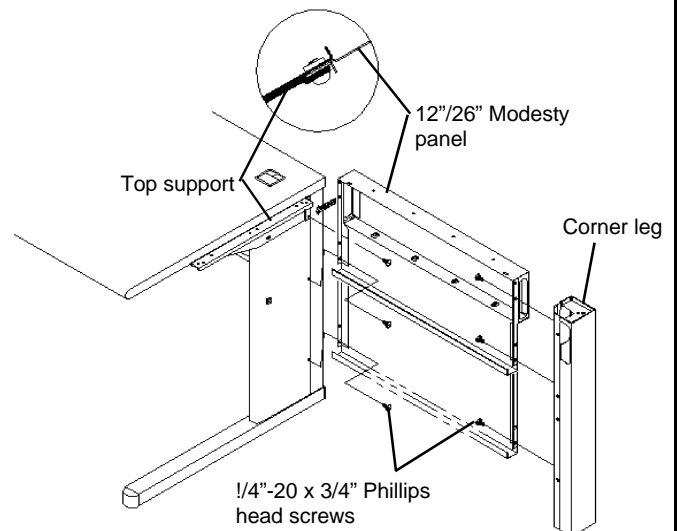

Figure 3
2. The **Modesty Panel** is installed from the rear and fits between the Top Supports and the Corner Leg. Fasten it with four 1/4"-20 x 3/4" Phillips head screws. Tighten all screws. See **Figure 3**.